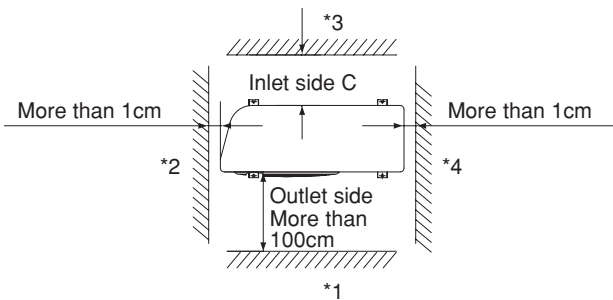
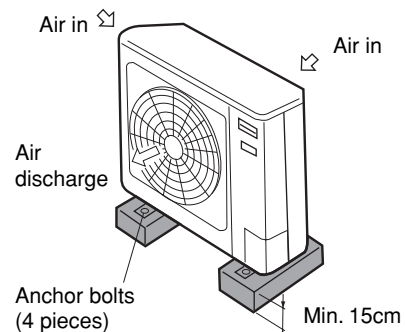

Fig. 2-5
Fig. 2-7
- allow enough room around the unit for air intake/exhaust and possible maintenance. (Fig. 2-5)
- Concerning inlet-side distance "C" (Fig. 2-5)
- If wall *1 is on the outlet side (Fig. 2-5), or if obstructions are present on all 3 sides *2, *3, and *4 (Fig. 2-5), then the minimum distance for "A" and "B" is 2 m (Fig. 2-7). Even if there is no wall on the outlet side, a minimum of 100 cm is required.
- provide a solid base (concrete block, 10 × 40 cm beams or equal), a minimum of 15 cm above ground level to reduce humidity and protect the unit against possible water damage and decreased service life. (Fig. 2-7)